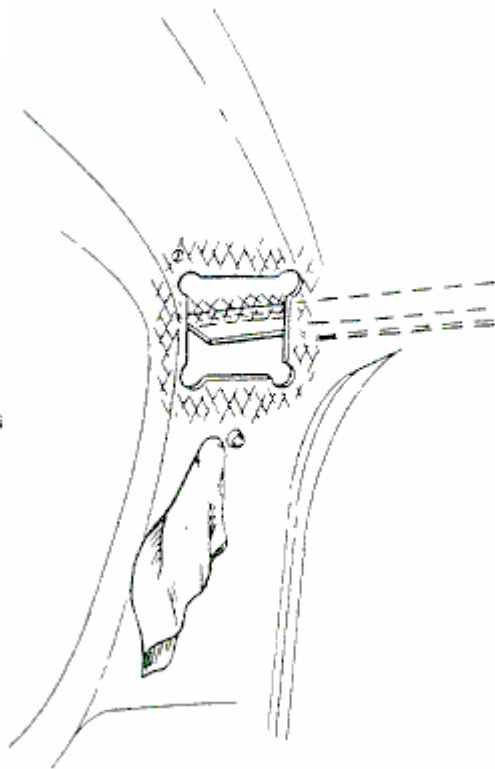

FIGURE 7
22. Prepare the surfaces for the two-part epoxy by wiping them with a solvent using a clean cloth. Ensure that there is no residue left on the surfaces. All surfaces should be scored and cleaned (refer to Figure 7).